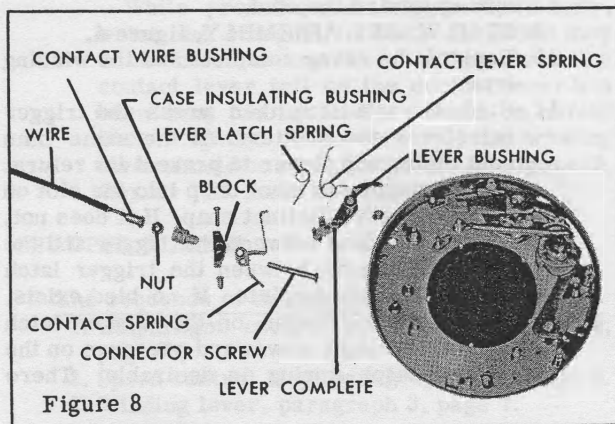

Figure 8
5. **CONTACT WIRE BUSHING**, figure 8, the **CONTACT WIRE**, and the connector screw **NUT**.
2. If a new contact lever is to be used, place the contact **LEVER LATCH SPRING**, figure 8, on the contact **LEVER BUSHING**, with the long end of the spring at the bottom. Lift the long end of the spring and rest it against the outside edge of the spring lug on the contact lever latch. Form the short end of the spring around the vertical part of the contact lever tail. Then place the **CONTACT LEVER SPRING** on the contact lever bushing. Bend the last 1/8 inch of the long end of the contact lever spring clockwise, with respect to the bushing, at least 15 degrees.
2. Place the contact LEVER LATCH SPRING, figure 8, on the contact LEVER BUSHING, with the long end of the spring at the bottom. Lift the long end of the spring and rest it against the outside edge of the spring lug on the contact lever latch. Form the short end of the spring around the vertical part of the contact lever tail. Then place the CONTACT LEVER SPRING on the contact lever bushing. Bend the last 1/8 inch of the long end of the contact lever spring clockwise, with respect to the bushing, at least 15 degrees.